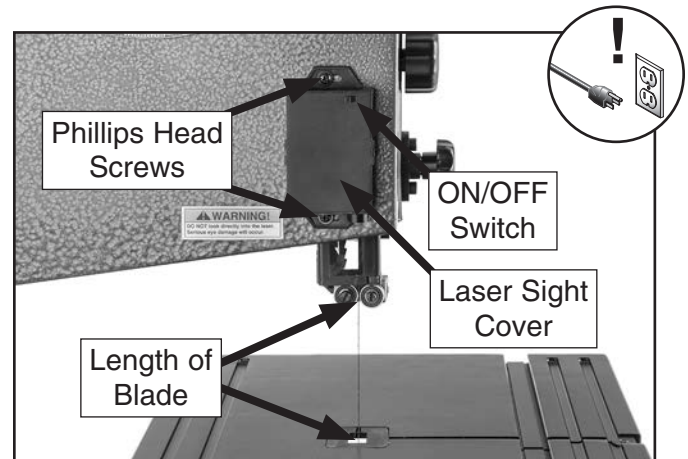

Figure 61. Laser sight components.
2. Loosen Phillips head screws (see **Figure 61**) that secure laser sight to bandsaw body.
3. Turn laser sight **ON** and slightly move laser sight unit until beam illuminates directly down length of blade (see **Figure 61**), then tighten Phillips head screws to secure in position.
To replace the laser sight batteries, simply open the laser sight cover (see **Figure 61**) and replace the batteries, matching positive and negative terminals. Replace cover when done.